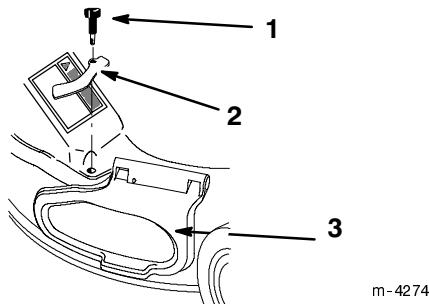

Figure 39
12. Secure the front right corner of the discharge tunnel and the side opening cover with the side cover clamp removed previously and the long knob supplied with the grass catcher (Fig. 39).